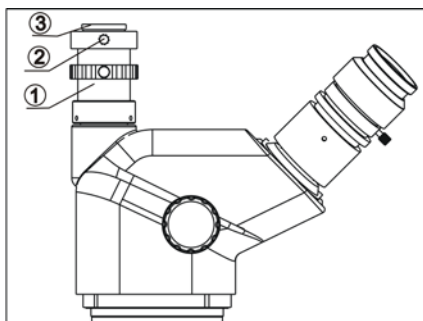

Fig.7
- (1) Screw the PK-mount ① in the head, M28 screw, tight the mount. (Fig.7)
- (2) loosen the screw on the PK-mount②, take out the mount of C type camera③
- (3) Screw the C type mount in the TV photo set.。
- (4) Install the TV photo set into the PK-mount and lock the screw.